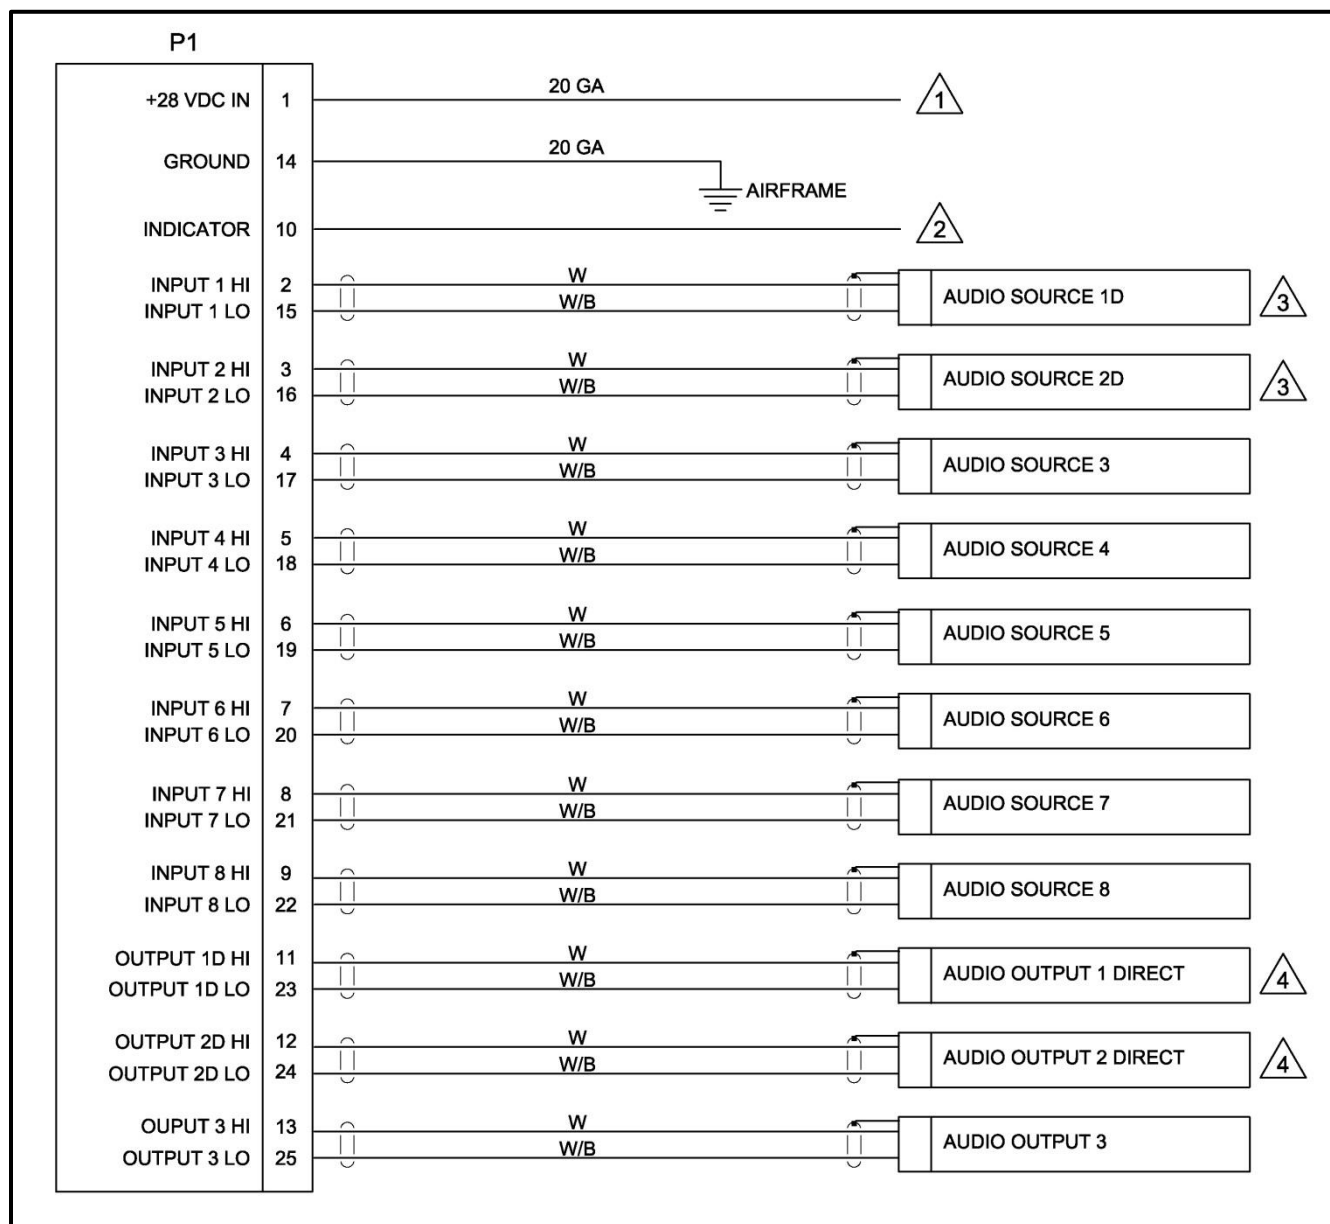

Figure 2: Cable Wiring
- b. Refer to Figure 2 for cable harness fabrication instructions.
- h. Notes for Figure 2: